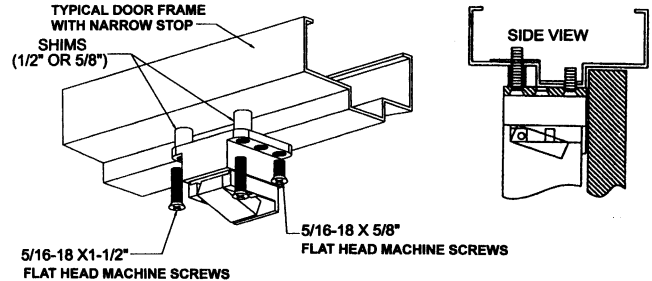

Fig. 4
2. If the top bracket is installed on a typical door frame (with a narrow stop), the top bracket overhangs the stop, the furnished shims should be used, see Fig. 4.